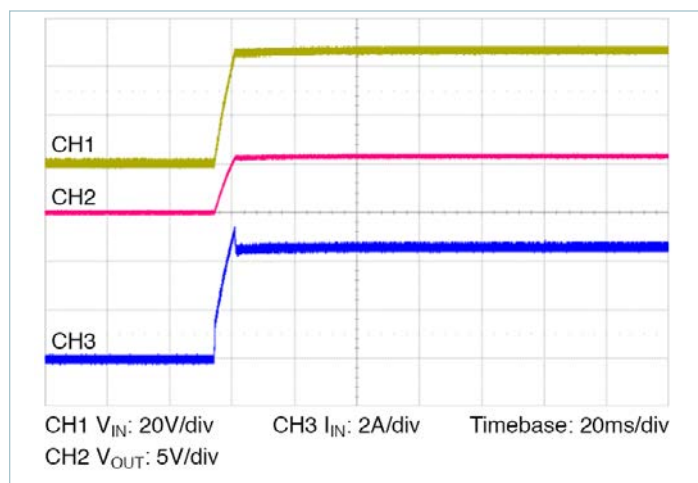

Figure 13 — Start up from application of V_{IN} ; VC pre-applied $C_{OUT} = 4000\mu\text{F}$
- **Normal operation (VC applied prior to V_{IN}):** In this case the controller is active prior to ramping the input. When the input voltage is applied, the VTM module output voltage will track the input (See Figure 13). The inrush current is determined by the input voltage rate of rise and output capacitance. If the VC voltage is removed prior to the input reaching 26V, the VTM may shut down.